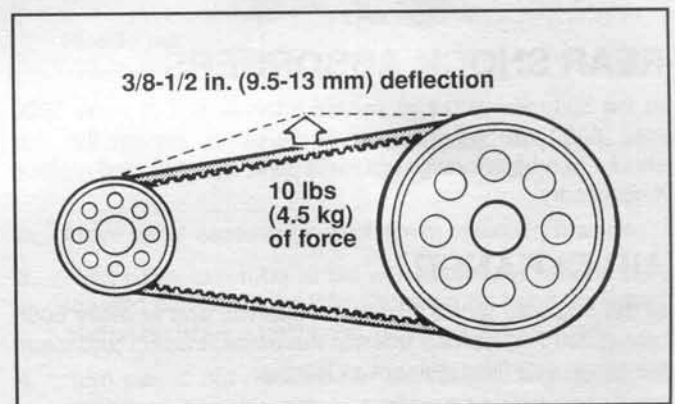

Figure 1-11. Belt Adjustment
1. See Figure 1-11. Using BELT TENSION GAUGE (HD-35381), check that the drive belt top strand deflects 3/8-1/2 in. (9.5-13 mm) while applying 10 lbs (4.5 kg) of force upward.